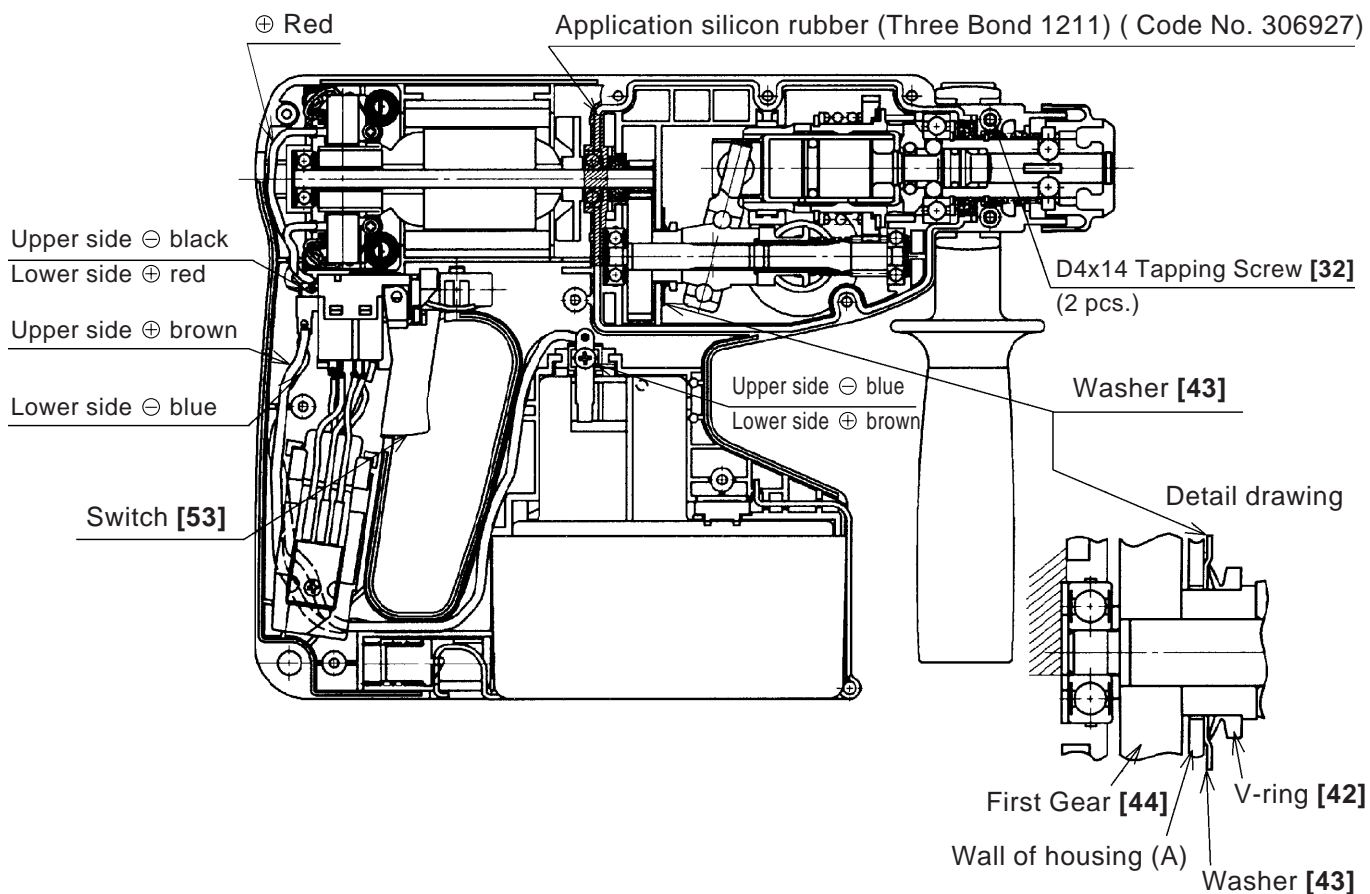

Fig. 2 Wiring arrangement and port locations
- (1) Be sure to perform wiring connection as indicated in Fig. 2.
- (2) Pay attention to the polarity of the Terminal Piece [67], and the Internal Wires [54] and [55] when mounting them to Housing (A). Be careful that the blue and brown Internal Wires cross at the midpoint.
- (3) Insert the Armature [28] into the Magnet [29] facing its no-notch side inward. Be careful not to scratch the Armature [28] because the magnet attracts the Armature [28].
- (4) Position the Washer [43] between the wall of Housing (A) and the V-ring [42] when mounting the Second Pinion [36] to the main body. Be careful not to position the Washer [43] between the wall of Housing (A) and the First Gear [44].
- (8) When installing the two D4 x 14 Tapping Screws [32], be very careful not to install the D4 x 20 Tapping Screws (W/Flange) [33] (black color) by mistake. Their positions are clearly designated in Fig. 2.
- (9) Tightening Torque